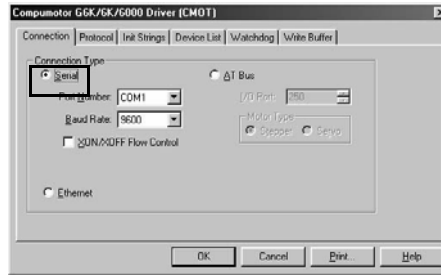

Figure 2-27: CMOT Driver Serial Connection
6. On the Connection tab, select the Serial connection, as shown in Figure 2-27 on page 31.